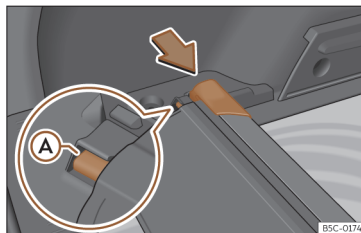

Fig. 122 In the luggage compartment: space to store the retractable shelf.
- Press the head of the retractable shelf in the direction of the arrow until it engages in its housing»» Fig. 122. Make sure that slide Ⓐ fits into the corresponding housing.